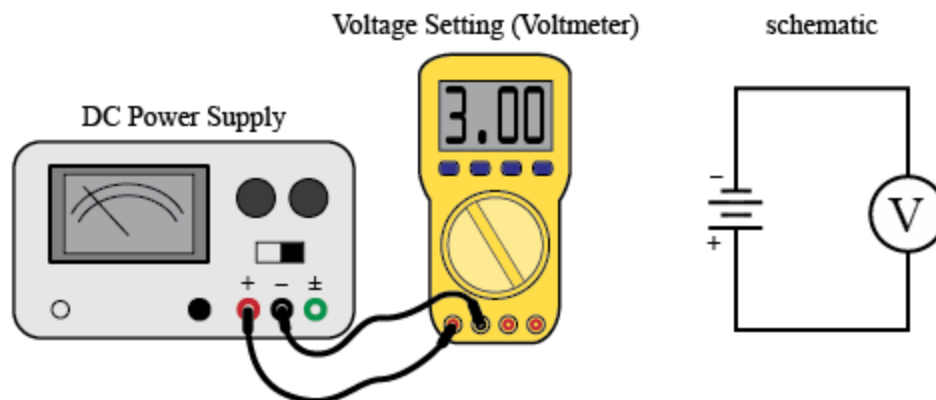

Figure 4
- 4 Connect the multimeter leads to the + and - terminals of the power supply as shown. See Figure 4. *Record* the voltage readings on the multimeter (including sign) and the reading on the power supply's meter.